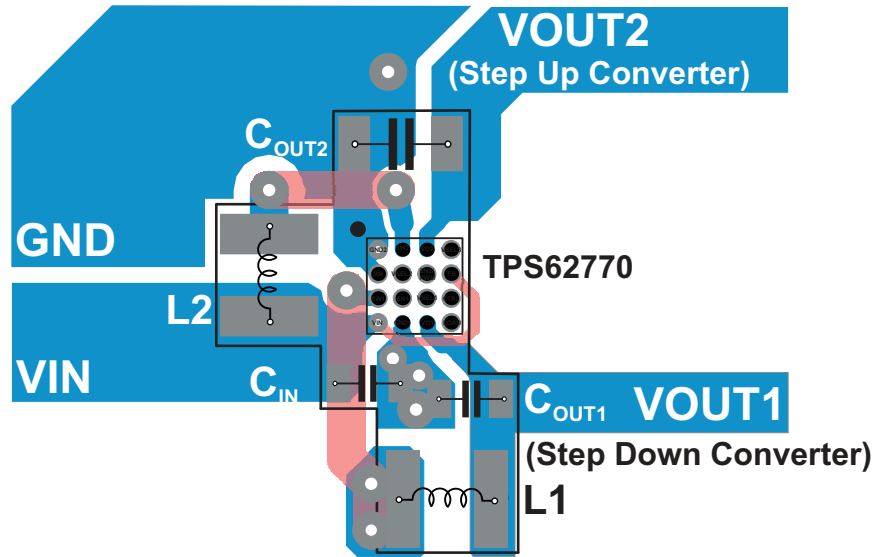
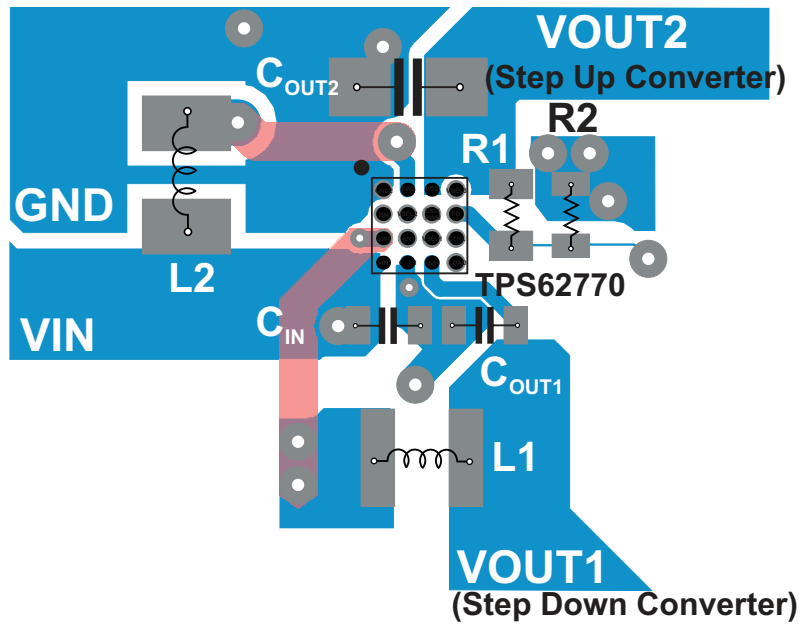

Figure 45. Recommended PCB Layout with 12 V Fixed VOUT2
Figure 46. Recommended PCB Layout with Adjustable VOUT2
- See Figure 45 and Figure 46 for the recommended PCB layout.